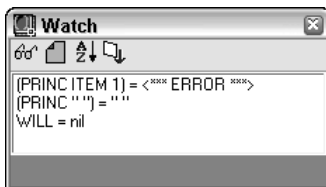

Figure 36-4: The Watch window shows an expression and a variable and displays their values.
4.  To add a variable to the Watch window, select item to the right of the foreach function and choose Add Watch in the Watch window. The Watch window should look like Figure 36-4.